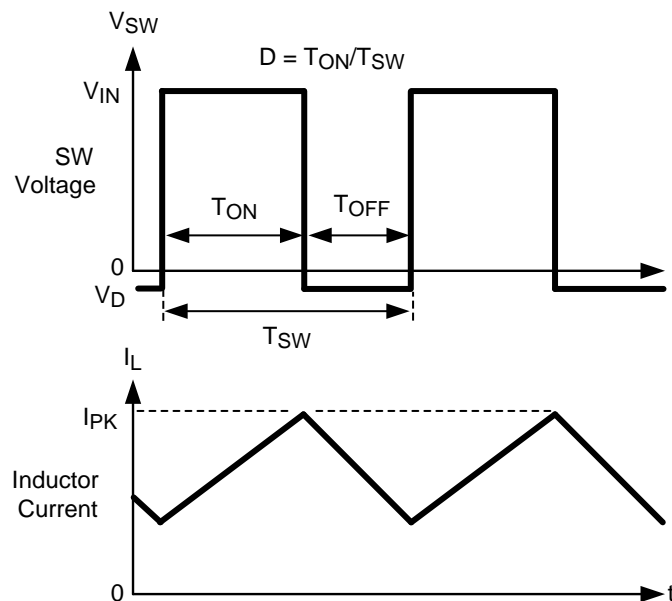

Figure 28. LM2738 Waveforms of SW Pin Voltage and Inductor Current
The following operating description of the LM2738 will refer to the Simplified Block Diagram (Figure 27) and to the waveforms in Figure 28. The LM2738 supplies a regulated output voltage by switching the internal NMOS control switch at constant frequency and variable duty cycle. A switching cycle begins at the falling edge of the reset pulse generated by the internal oscillator. When this pulse goes low, the output control logic turns on the internal NMOS control switch. During this on-time, the SW pin voltage (V_{SW}) swings up to approximately V_{IN} , and the inductor current (I_L) increases with a linear slope. I_L is measured by the current-sense amplifier, which generates an output proportional to the switch current. The sense signal is summed with the regulator's corrective ramp and compared to the error amplifier's output, which is proportional to the difference between the feedback voltage and V_{REF} . When the PWM comparator output goes high, the output switch turns off until the next switching cycle begins. During the switch off-time, inductor current discharges through Schottky diode D1, which forces the SW pin to swing below ground by the forward voltage (V_D) of the catch diode. The regulator loop adjusts the duty cycle (D) to maintain a constant output voltage.
In the Simplified Block Diagram of (Figure 27), capacitor C_{BOOST} and diode D2 supply the gate-drive voltage for the NMOS switch. Capacitor C_{BOOST} is charged via diode D2 by V_{IN} . During a normal switching cycle, when the internal NMOS control switch is off (T_{OFF}) (refer to Figure 28), V_{BOOST} equals V_{IN} minus the forward voltage of D2 (V_{FD2}), during which the current in the inductor (L) forward biases the Schottky diode D1 (V_{FD1}). Therefore the voltage stored across C_{BOOST} is